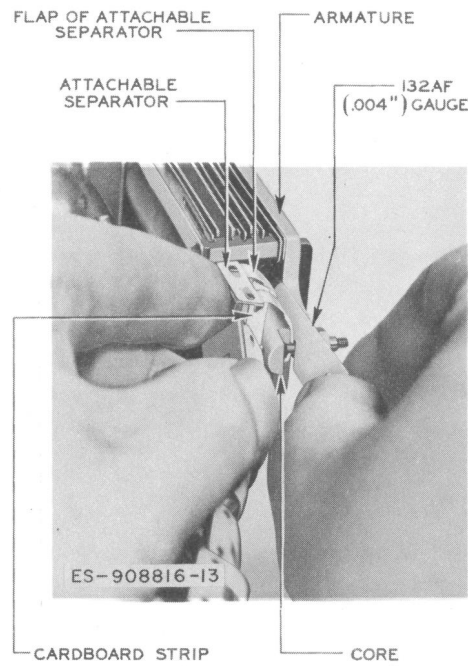

Fig. 6—Method of Applying Attachable Separator on Core
(1) Where an attachable separator has previously been used and is to be replaced, use a 3-inch C screwdriver to remove the separator from the core. Note the thickness of the separator that was removed. Where the metal clip of the separator is marked 5, replace it with the D-178259 separator (0.005-inch designated 5 on the clip) and when it is marked either 10 or 15 replace it with the D-178260 separator (0.010-inch designated 10 on the clip). Mount a new separator as covered in (2) and (3).
(2) Insert the 132AF (0.004-inch) gauge into the armature gap, as shown in Fig. 6, to guide the flap of the attachable separator into position. This is done to prevent the flap of the separator from snagging on the stop discs. Hold the cardboard strip of separators in the left hand with the flap of the first separator toward the core of the relay and the free edge of the flap downward. Straighten the righthand end of the strip. Using the index finger of the left hand, slide the first separator approximately 1/8 inch over the end of the strip and insert the free edge of the flap between the gauge and the core. Take care that the flap is entirely behind the adjusting stud and that the front and rear corners of the flap enter the armature gap at the same time. Slide the flap into position and while holding the separator in place with the index finger of the left hand, as shown in Fig. 6, withdraw the strip. Turn the metal clip in a counterclockwise direction until the ears are in a vertical position. Snap the metal clip over the core so that the ears rest against the step on the core and then remove the gauge.
(3) With the separator in place, make sure that the edges of the window of the flap do not touch the stop discs and that there are no wrinkles or snags in the flap. If there are wrinkles or snags, remove the separator as covered in (1) and replace it.